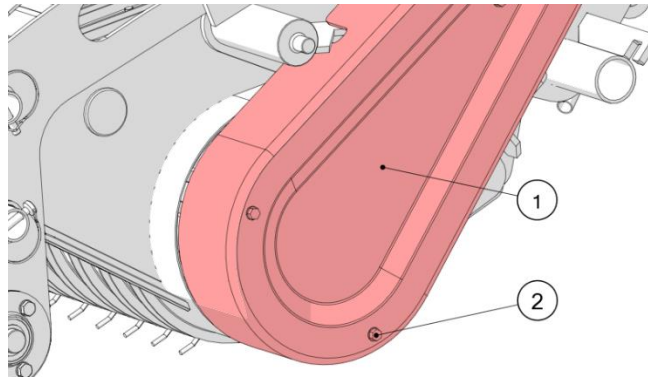

Figure 52. The left guard of the pick-up
- Remove the left guard of the pick-up (1) by undoing the bolts (2), as shown in Figure 52;